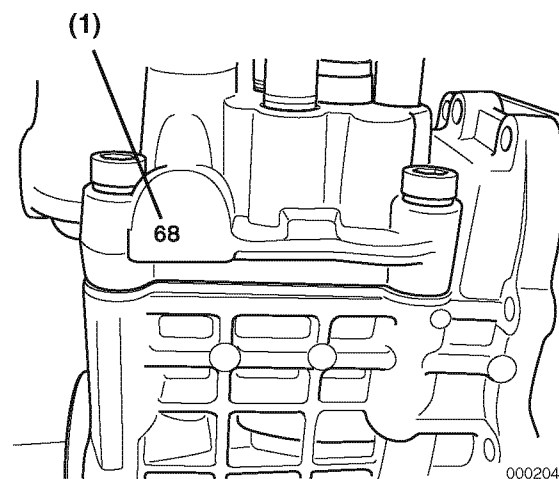

Figure 7-29
- Calculate the difference between the timing index numbers (Figure 7-29, (1)) of the fuel injection pump that you removed and the replacement fuel injection pump. See Calculation Example below.